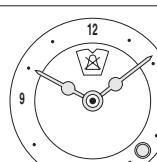

Fig.6A
**Analogic clock (Fig. 6A)****Setting the clock**